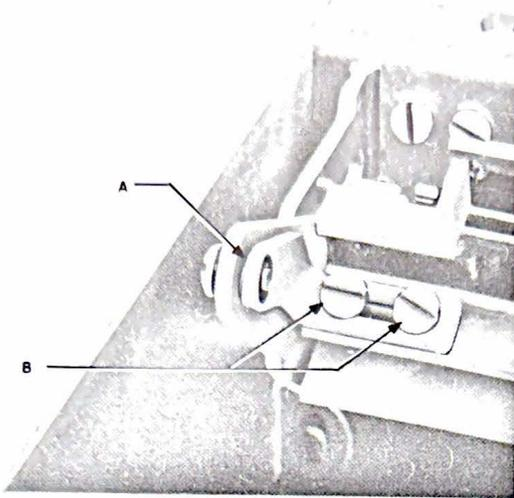

Fig. 6 - Pivot Bar, End-Play Adjustment
2. Check the PIVOT BAR for freedom of movement. There should be perceptible end play between the PIVOT BAR bracket bushing and the pivot arm bracket (A in Fig. 6). Adjustment may be made by moving the bracket. Two machine screws are provided for this purpose (B in Fig. 6).